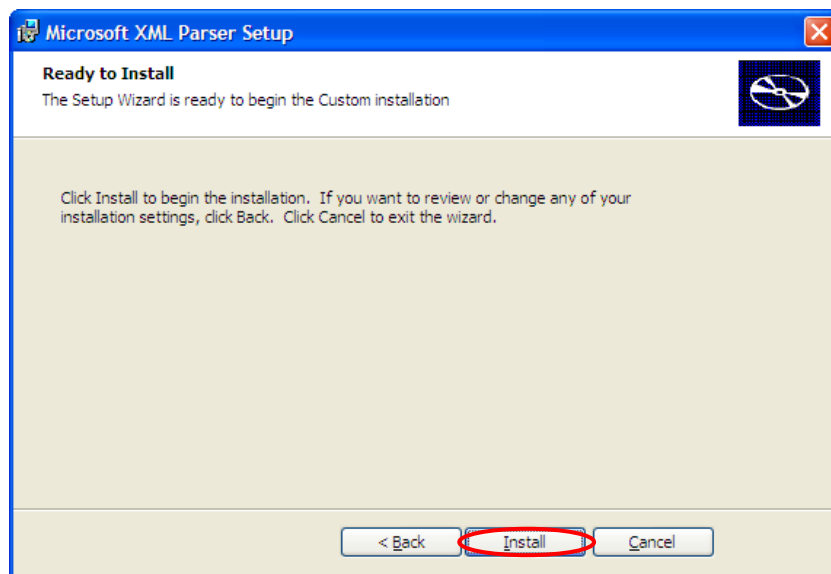

Figure 1-1-14 Installation Steps (14)
- Click “Install” button to begin the installation, as shown in figure 1-1-14.